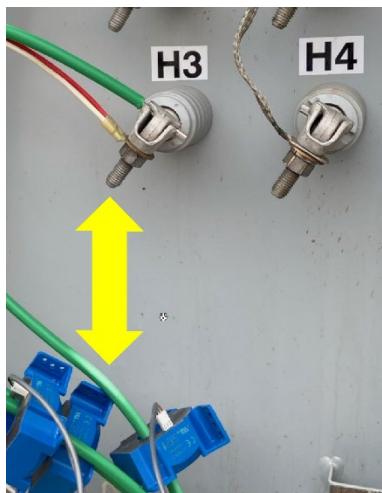

Figure 4.10—Required clearance between sensor and transformer bushing to prevent electrical shock
3. Ensure the current sensors are at least 13 centimeters (5 inches) from any medium-voltage contact—e.g., a secondary (load-side) transformer bushing (Figure 4.10).